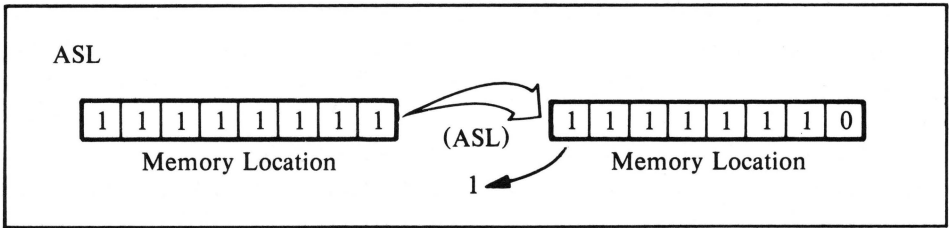

Figure 14-1. Arithmetic shift left
- **ASL** — Arithmetic shift left. Shifts all bits in a byte (either accumulator or memory) once to the left, thus leaving a 0 in the lowest order bit, and moving the value from the highest order bit into the Carry (see Figure 14-1).